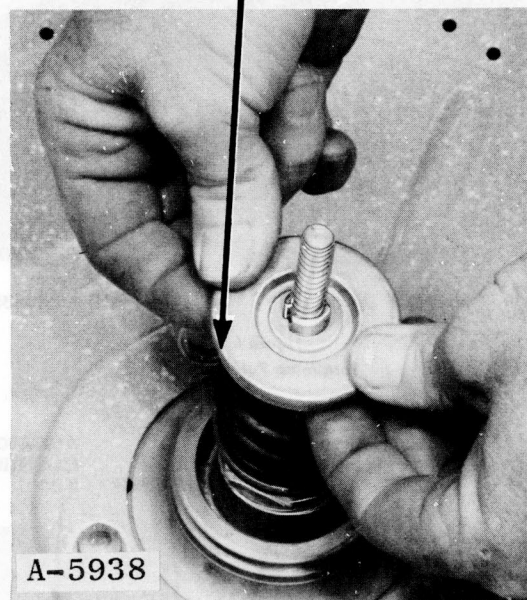

Figure 71
2. Inner bellows retainer: Place the retainer on the top of the inner bellows and work the top of the inner bellows up into the flanged bottom of the retainer, Figure 71.